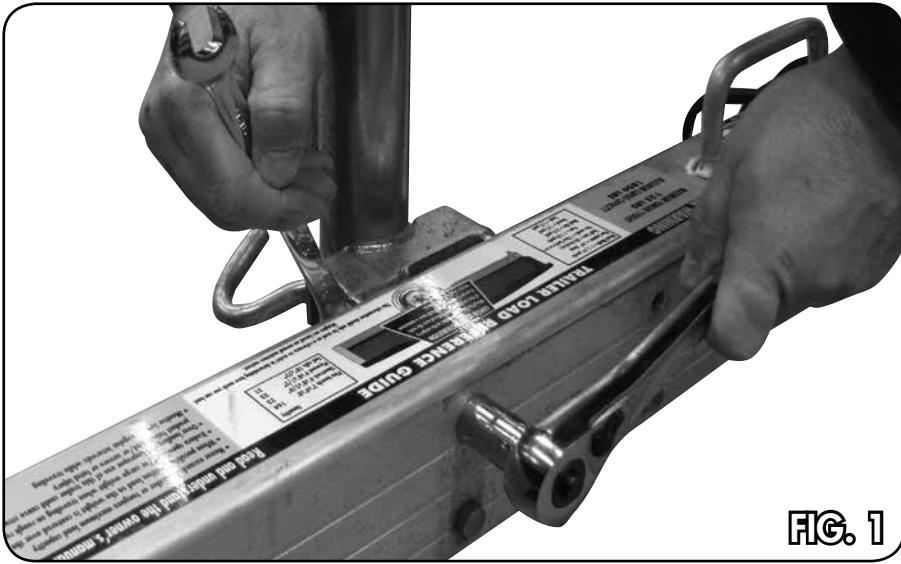

FIG. 1
1. REMOVE THE TOP TWO 3/8" BOLTS FROM THE TONGUE JACK AS SHOWN IN FIGURE 1.